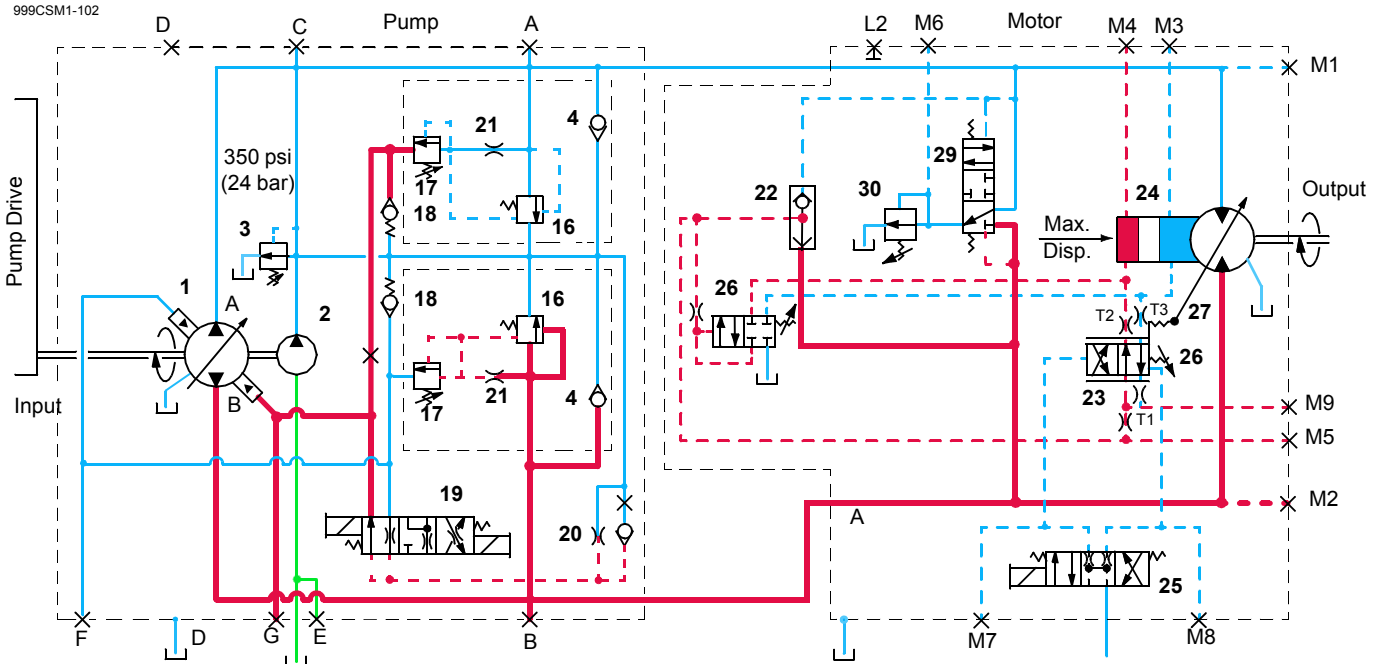

FIGURE 1-3
In travel pumps, the pressure relief and pressure-limiting sections of multifunction valve responds when relief pressure is reached. The pressure limiting function of travel pumps is set not to exceed 6090 psi (420 bar). If travel pump pressure exceeds preset pressure limit, pumps de-stroke to prevent overheating of system fluid. Hydraulic fluid pressure overcomes spring resistance in pressure limiting relief valve (17, Figure 1-3), shifting spool to open a path for fluid. Servo check valves (18) are spring loaded with an opening pressure of 750 psi (52 bar).